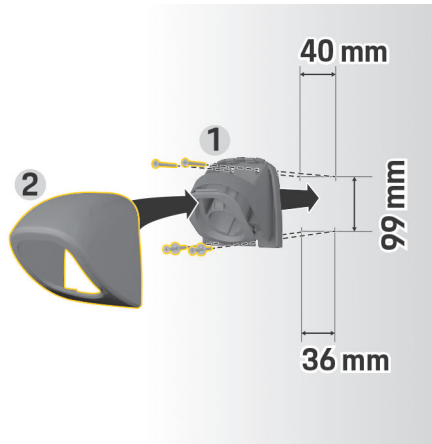

Fig. 30 Drilling dimensions
1. Remove the connector fastener 1 (Fig. 30) from the cover 2 (Fig. 30).
4. Screw the connector fastener 1 (Fig. 30) onto the wall.
5. Fit the cover 2 (Fig. 30) onto the connector fastener 1 (Fig. 30) from below and push up.